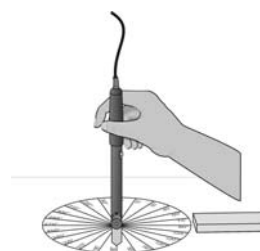

Figure 2
20. Tape the pointer on top of the white dot of the Magnetic Field Sensor and bend it so that it is perpendicular to the sensor as shown in Figure 2.